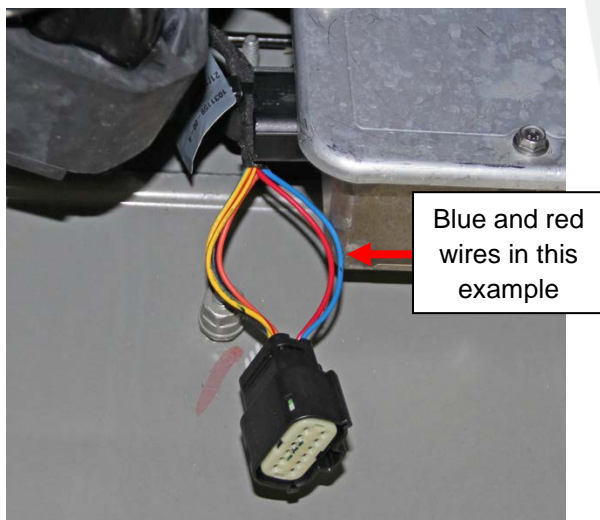
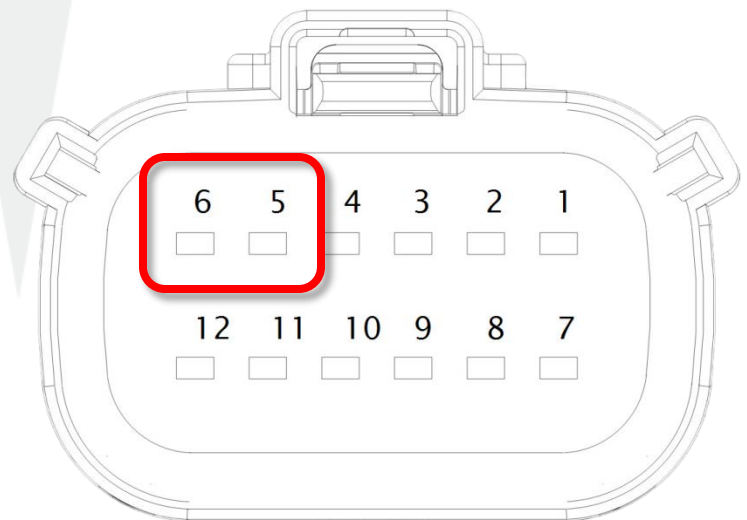

Figure 7
Figure 8
5. Identify the affected wires (Figure 7) attached to pins 5 and 6 (Figure 8) on the FJB logic connector.